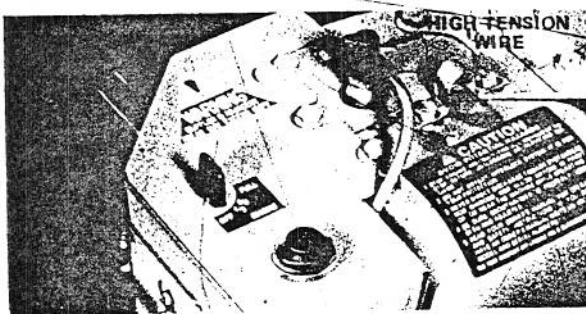

Figure 35
2. Pull high tension wire off spark plug (Fig. 35), and remove plug from cylinder head.
4. Push the high tension wire onto spark plug (Fig. 35).